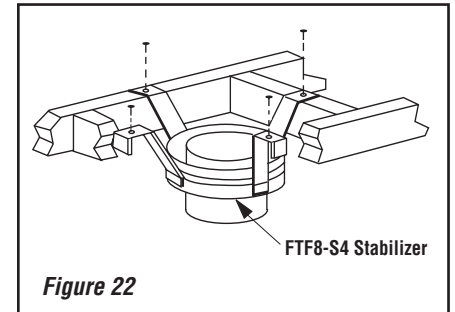

Figure 22
Install the Model FTF8-S4 stabilizer by fitting inner section down into respective section of proceeding flue pipe and locking outer stabilizer section into place over the outer chimney pipe. Position for proper clearance through framed opening and nail straps securely (under tension in "shear") into place on framing. Use 8d nails. Attach successive lengths of chimney pipe directly to stabilizer using same techniques as described in **Step 4 (Figure 22)**.
Step 1. Use Offset Chart to determine amount of horizontal offset (A) and height (B) for various chimney section assemblies.
Step 3. Use Elevation Chart as job estimator only. Add necessary firestop spacers and stabilizers as required. Firestop spacers must be used as shown in **Figure 29** and stabilizers as shown in **Figure 22**.